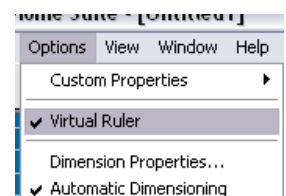

Figure 16
1. To use the virtual ruler **open** the **options menu** and **drag** down to **virtual ruler** as shown in **figure 16**. Drag the ruler in to place and re-size it by simply dragging it.